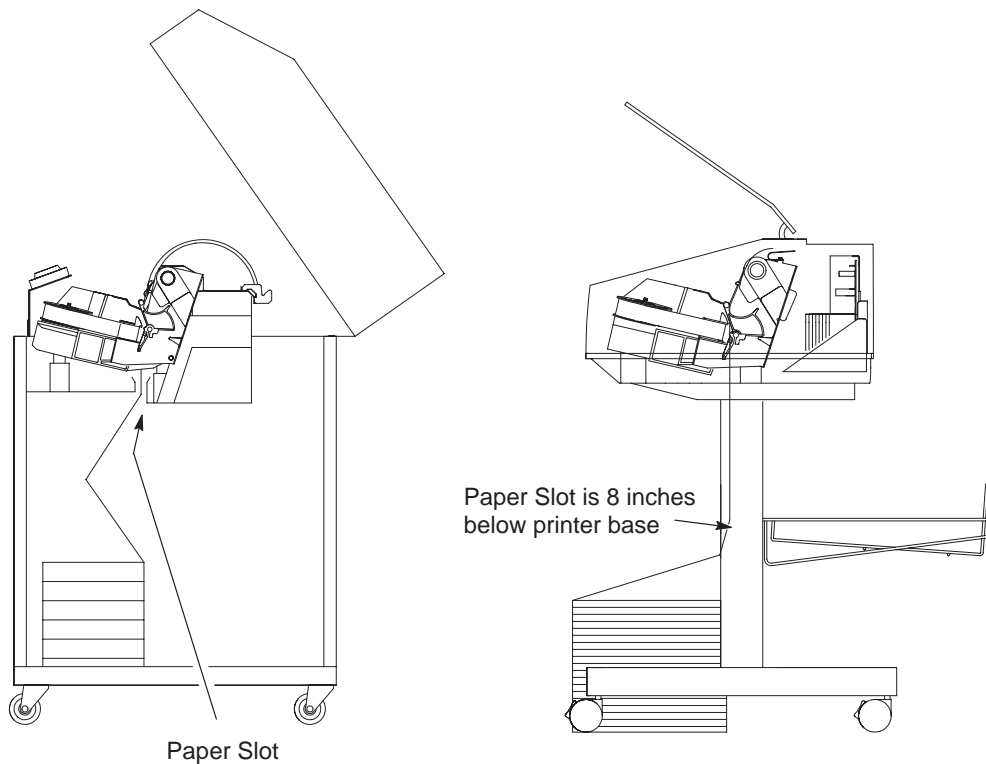

Figure 2–38. Feeding the Paper
5. Feed the paper up through the paper slot. On pedestal models, be sure the paper feeds between the two wire guides. Hold the paper in place with one hand (to prevent it from slipping down through the paper slot) while pulling it through from above with your other hand. See Figure 2–38.